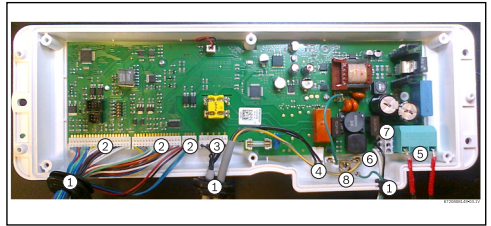

Fig. 6 Printed Circuit Board (PCB)
- ▶ Remove rear cover from control unit to expose circuit board electrical connections. Slide wire restraints out of rear cover (Fig. 6, pos. 1).
- ▶ Remove five electrical strip connectors by pulling them away from board (Fig. 6, pos. 2, 3 and 4).
- ▶ Remove two large ignition wires by pulling them outwards (Fig. 6, pos. 5).
- ▶ Remove yellow/green striped ground wire spade connection by depressing tab on connector and pulling it gently off the board (Fig. 6, pos. 6).
- ▶ Loosen two small flat head screws on terminal block for power cord. Pull black and white wires free from terminal block and control unit (Fig. 6, pos. 7).
- ▶ Remove Phillips head screw and remove green ground wire connection for power cord (Fig. 6, pos. 8).